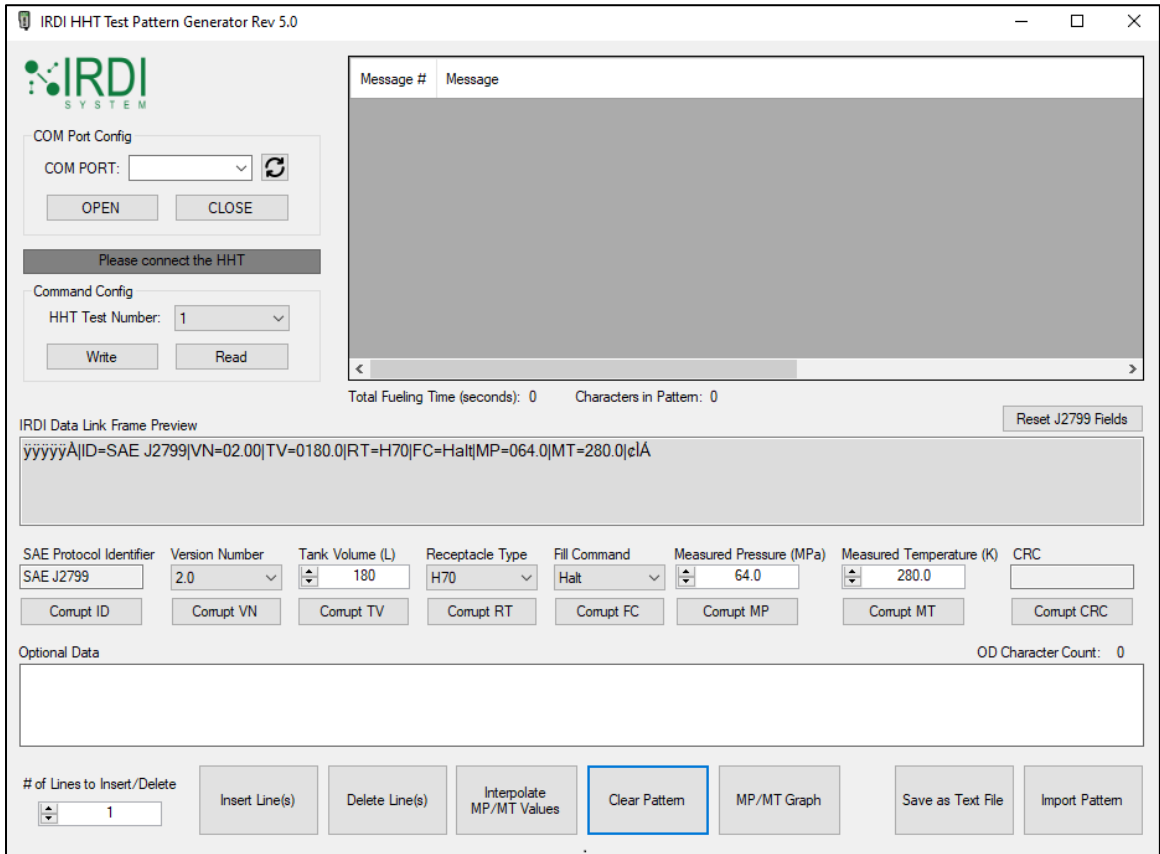

FIGURE 5-11 HHT TEST PATTERN GENERATOR SOFTWARE
STEP 2	Click on the icon for the HHT program. The IRDI HHT Test Pattern Generator main screen will appear – see Figure 5-11.